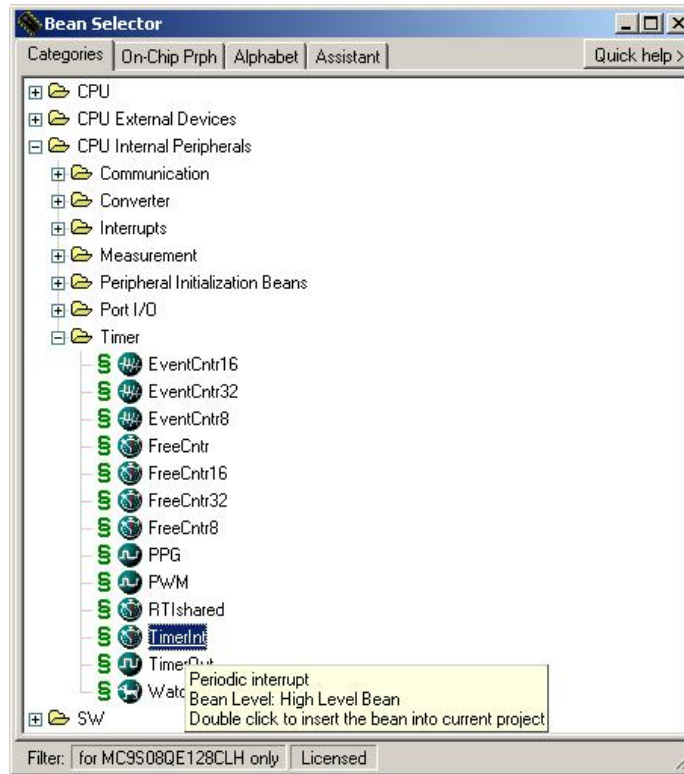

Figure 13. Bean Selector window - TimerInt Bean
Figure 13 details the Bean Selector window and the TimerInt Bean. The following steps describe how to add the TimerInt bean to the project:
2. Go to menu Processor Expert > View > Bean Selector in CodeWarrior this is the Bean Selector window (Figure 13).